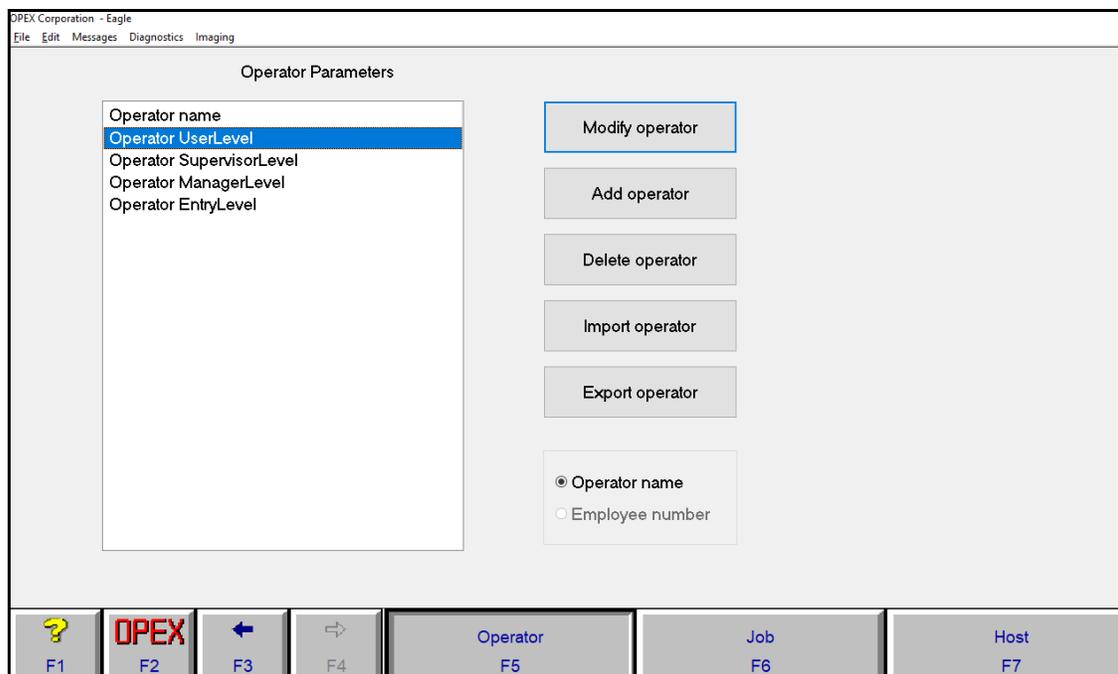

Figure 3-29: Operator Parameters screen
1. Open the Operator Parameters screen (Figure 3-29) by clicking **OPEX > Parameters > Operator**.
2. Highlight the operator account you wish to modify and click **Modify Operator** (see Figure 3-29).